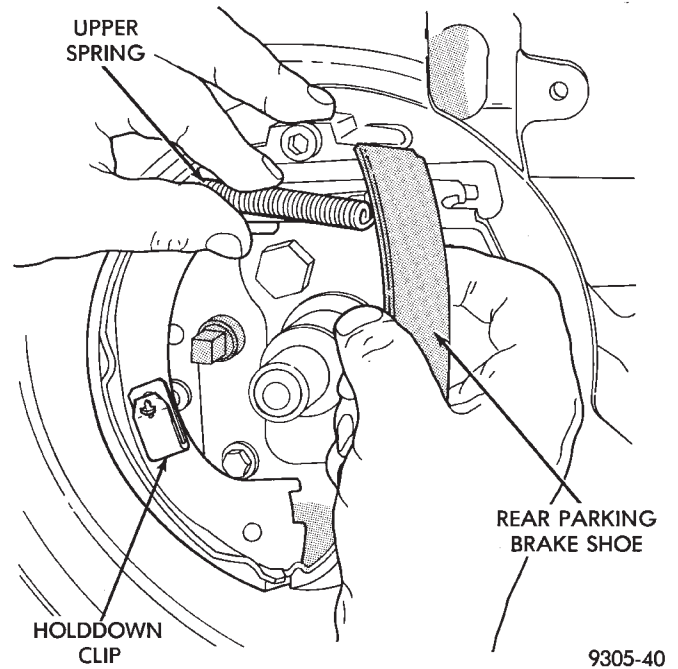

Fig. 6 Installing Upper Spring
(8) Pull inboard brake shoe away from piston, until retaining clip is free from cavity in piston. (Fig. 6).